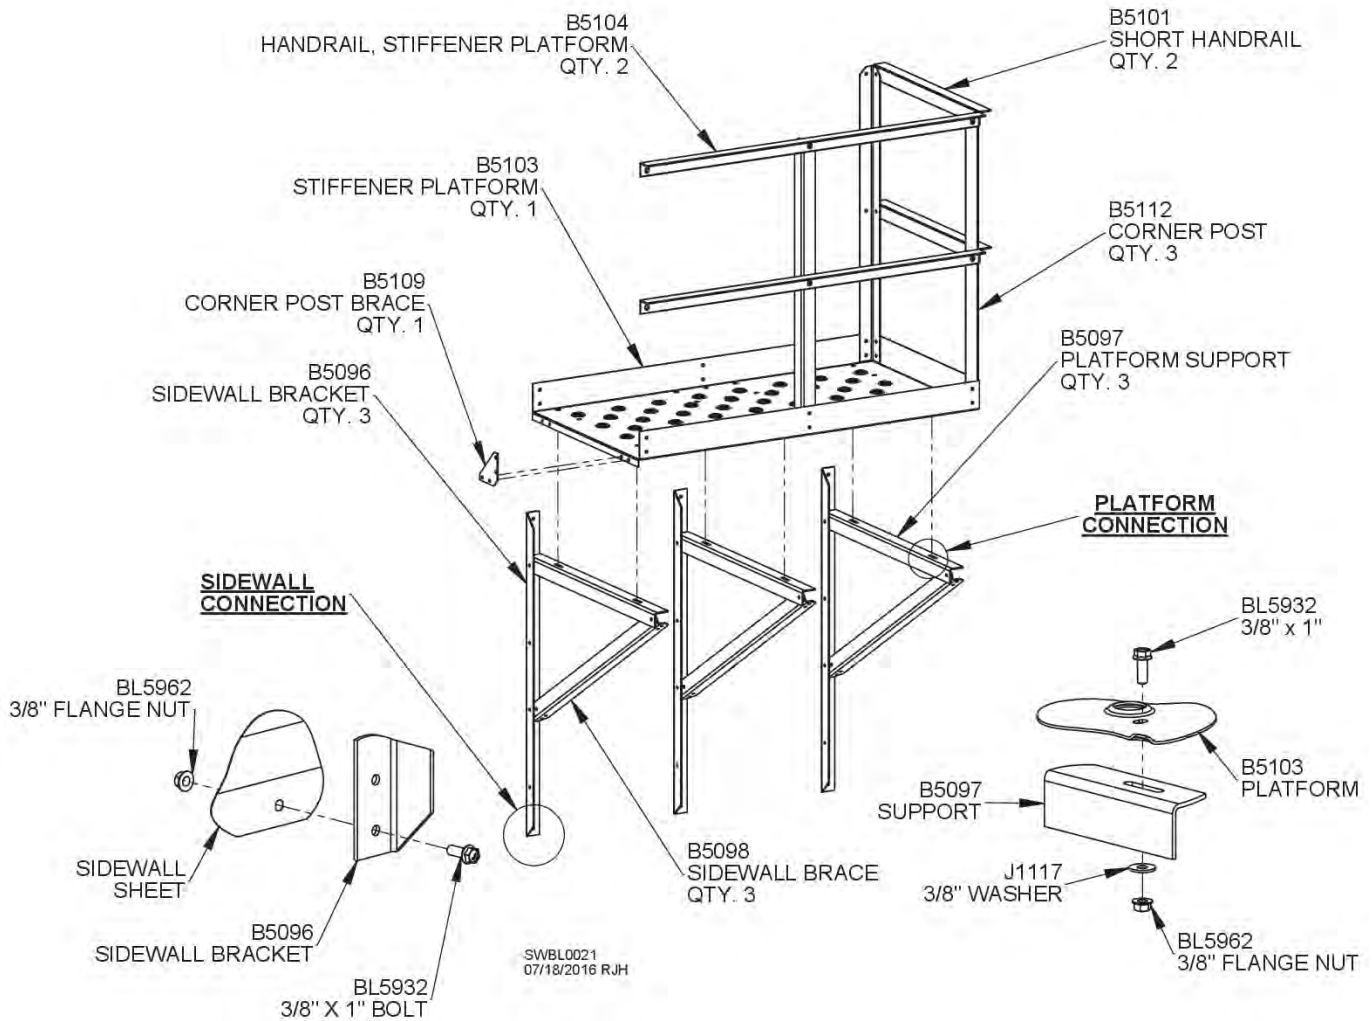

Fig. 22
Entire platform assembly is constructed with 3/8" hardware. Begin by attaching sidewall brackets (B5096) to sidewall. Some holes may need to be field-drilled in sidewall depending on which position was chosen for platform. Attach platform supports (B5097) and brace angles (B5098) to sidewall brackets as shown in Fig. 22. **NOTE:** Leave all bolts loose until assembly is complete.
Attach platform (B5120) to platform supports and fasten corner posts (B5112) to 4" toeboard. Fasten long and short platform handrails to corner posts. See Fig. 22. Only three (3) corner posts are shown. Corner post brace (B5109) and post that it braces will attach later. Platform and handrails will attach later to extensions that will be connected to cage.